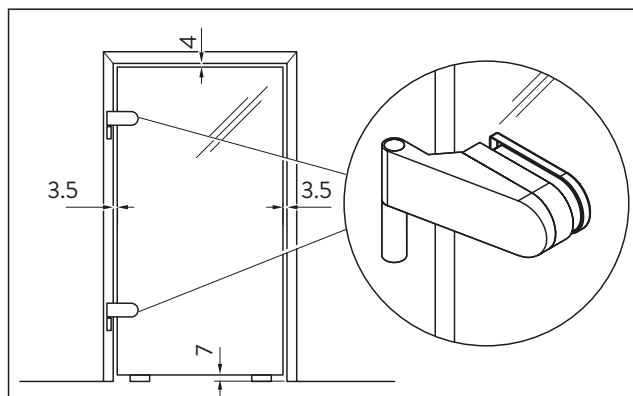

Abb. 15 Gaps
- Prop up the glass door panel in the mounting position on wooden blocks and align vertically. Note the gaps (see Fig. 15)